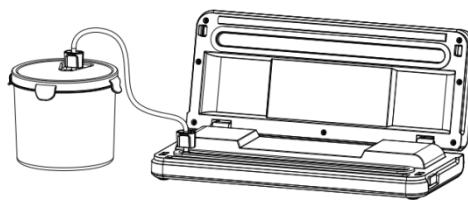

Figure 8
3. Insert one end of the hose into the air intake and another end of the hose into the center hole of the container lid. The container needs to have a tight seal (**as shown in Figure 8**);